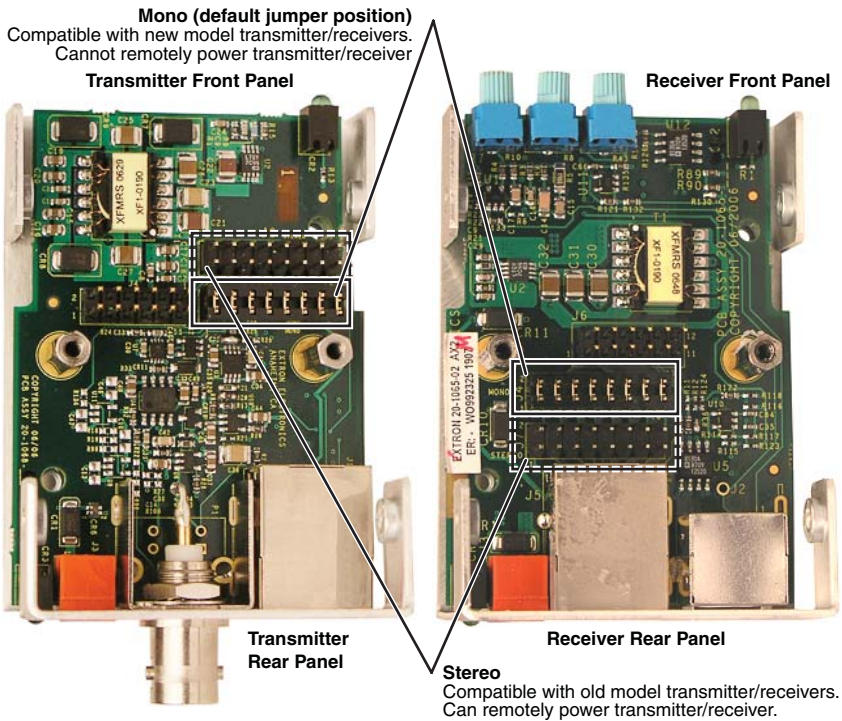

Figure 2-3 — Video board jumper locations
5. Locate the jumper blocks (figure 2-3) on the video board. Shift the jumper to the alternate location.